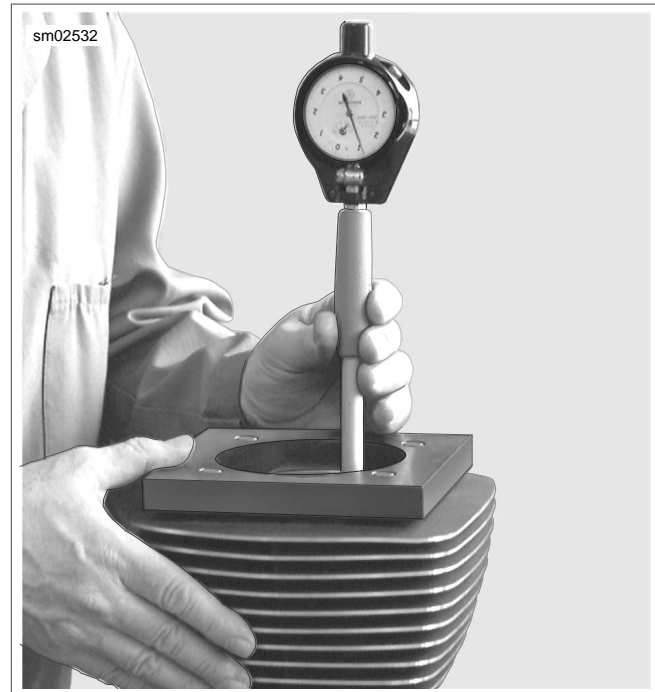

Figure 3-99. Measure for Out-of-Round and Taper
2. See Figure 3-99. Using an inside micrometer or dial bore gauge, check cylinder bore for out-of round and taper. Proceed as follows: